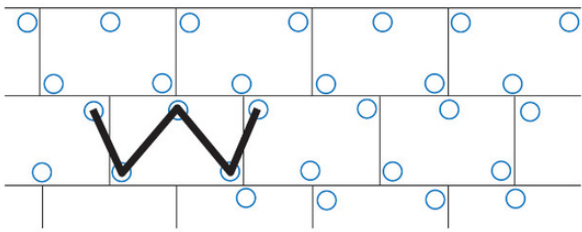

Fig. 2
- At the edges and corners of the building, install the panels by staggering them in overlapping rows (Fig. 2)